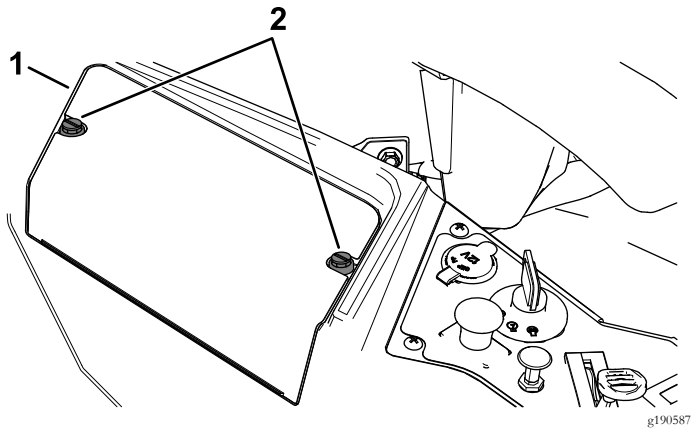

Figure 1
1. Loosen the 2 fasteners on the battery cover counterclockwise 1/4 turn and remove the battery cover (Figure 1).